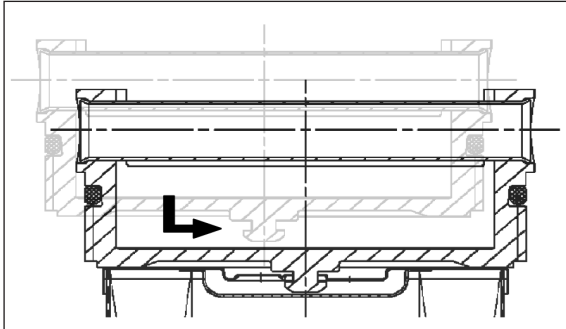

Fig. 7: Attaching the cover to the filter element
4. Attach the filter element to the cover (see Fig. 7).